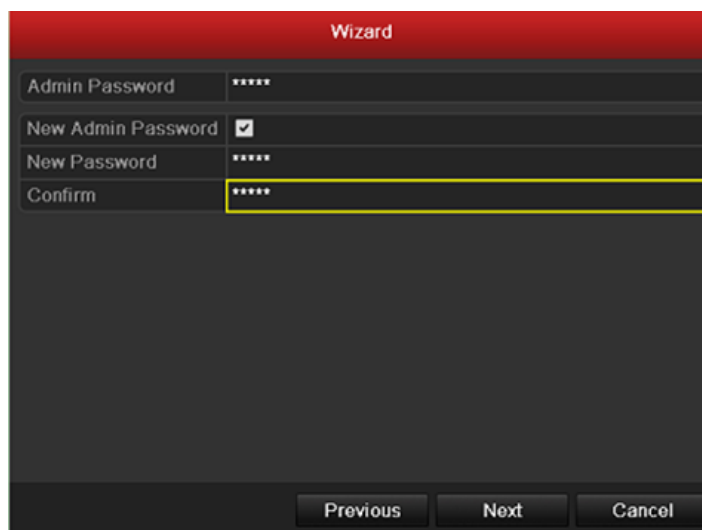

Figure 2.3 Login Window
3. Click **Next** button on the Wizard window to enter the **Login** window, as shown in Figure 2.3.